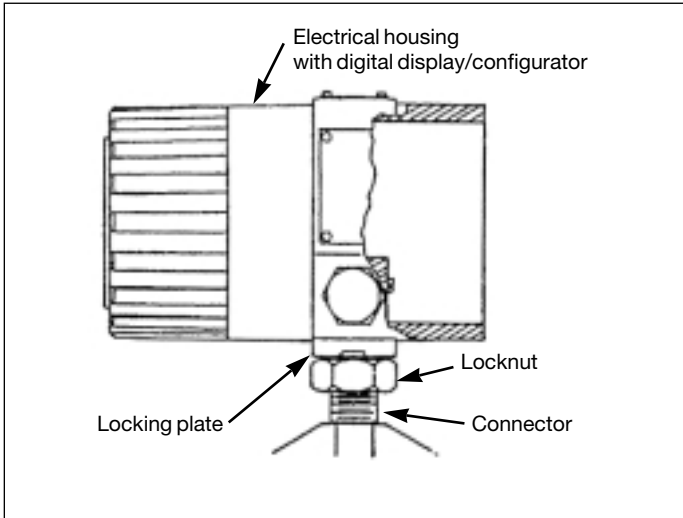

Figure 8. Repositioning the Electrical Housing
- Unscrew housing locknut to bottom of thread. See figure 8.